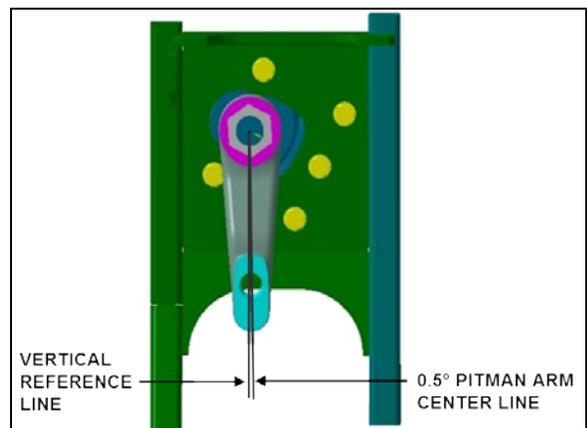

FIGURE 22: IFS PITMAN ARM ALIGNMENT 14056
4. Check that the angular relationship of the pitman arm to the steering gear is as shown in figure 22.